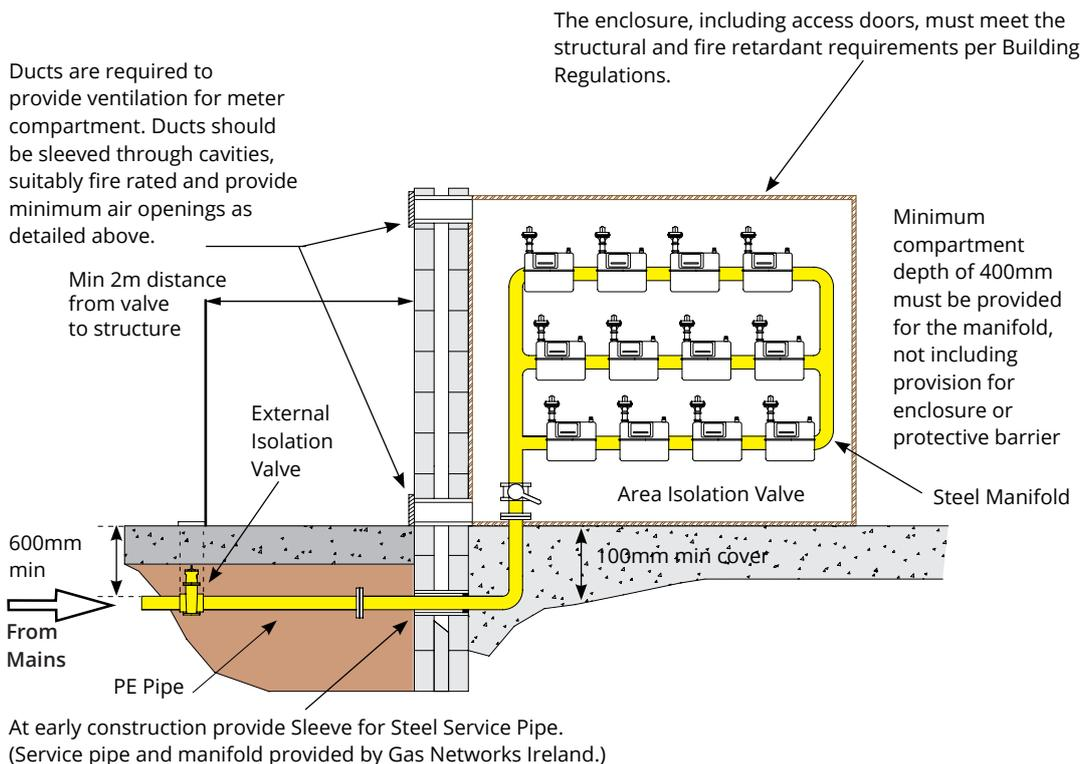

Figure 28: Multiple meter within a building
- **Variation A:** Meters located in Common Areas shown in figure 28.